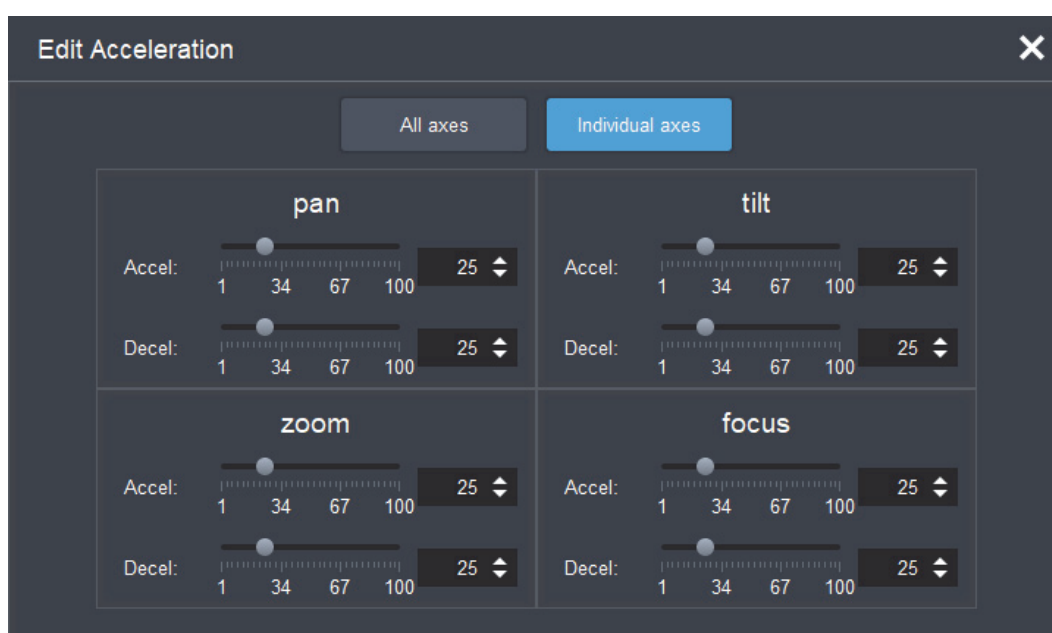

Figure 24 - Edit Acceleration dialog box (individual axes)
- e. If you want to customize the acceleration rate and/or deceleration rate for individual axes, tap the **Individual axes** button and then specify the rates for each axis as required. See Figure 24.